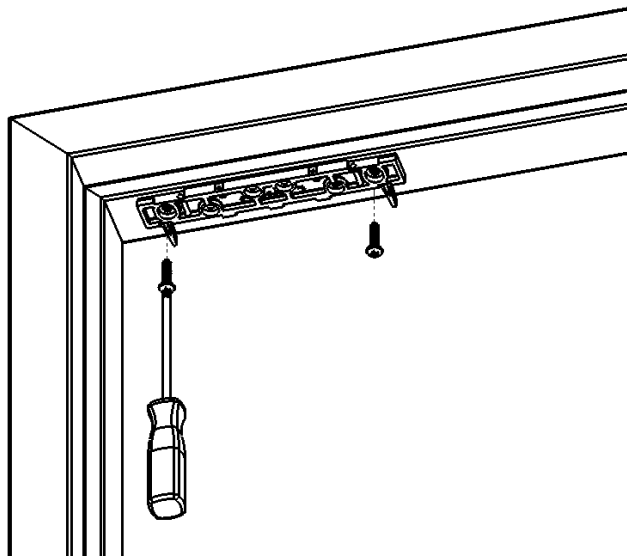

Figure 12. Installing the Bracket
5. Temporarily INSTALL the mounting bracket with template pins against the closed door using a Phillips screwdriver (see Figure 12, "Installing the Bracket").
- a. USE two (2) 1/4-20 X 1" Phillips Pan Head Screws.